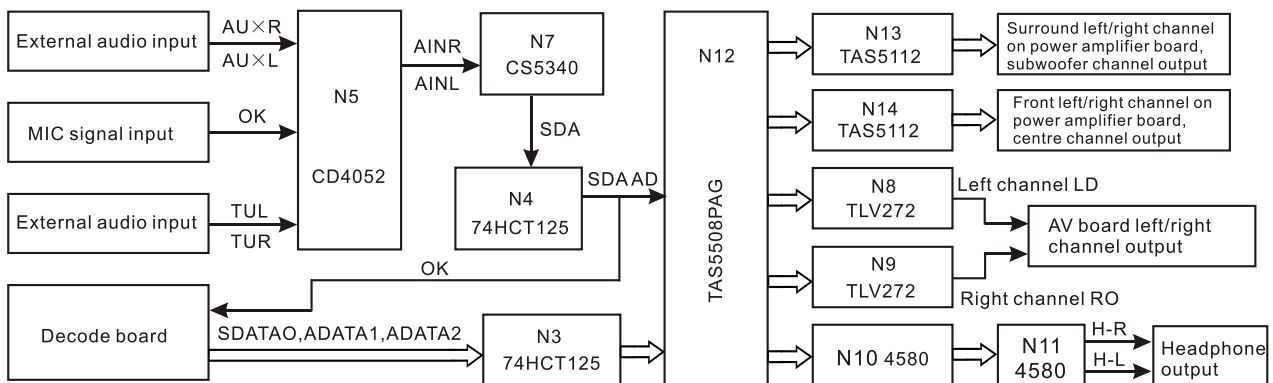

Figure 3.3.1.1 Audio power amplifying circuit block diagram
1. Audio power amplifying circuit block diagram is shown as the following figure 3.3.1.1: